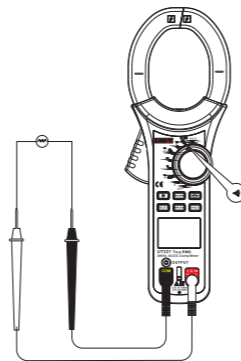

Figure 7
5. Continuity test (•|•) (See Figure 7)